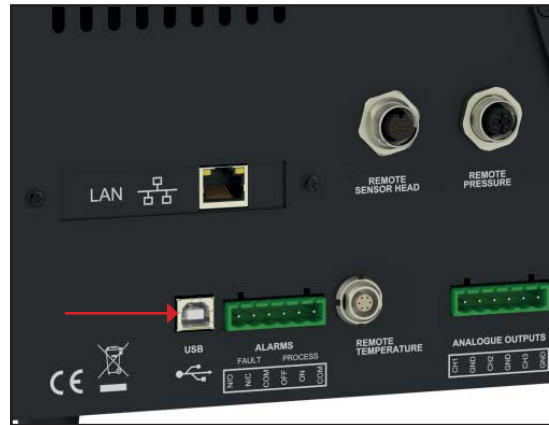

Figure 8 *USB Port Connection*
1. Check the orientation of the connector and gently push it into the socket labelled **USB** (see *Figure 8*).